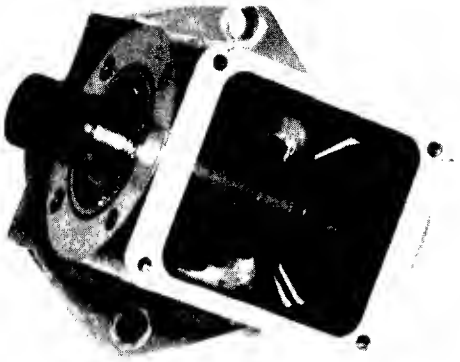

FIG. 4.17-COVER & SEAL REMOVED
5. Remove cover and seal from over input shaft. Fig. 4.17.